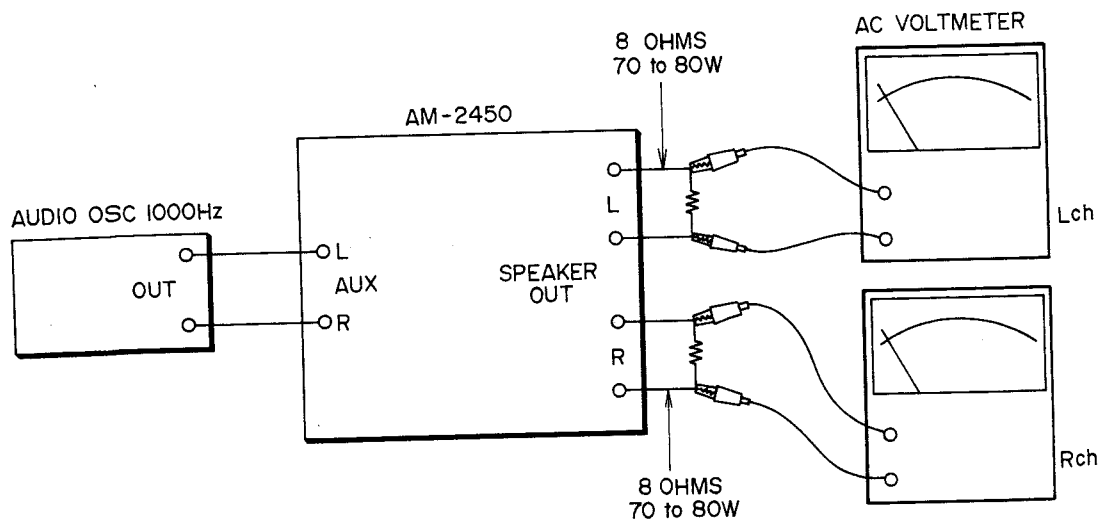

Fig. 23 Instrument Connection
2. LEVEL METER INDICATION ADJUSTMENT (Refer to Fig. 23)